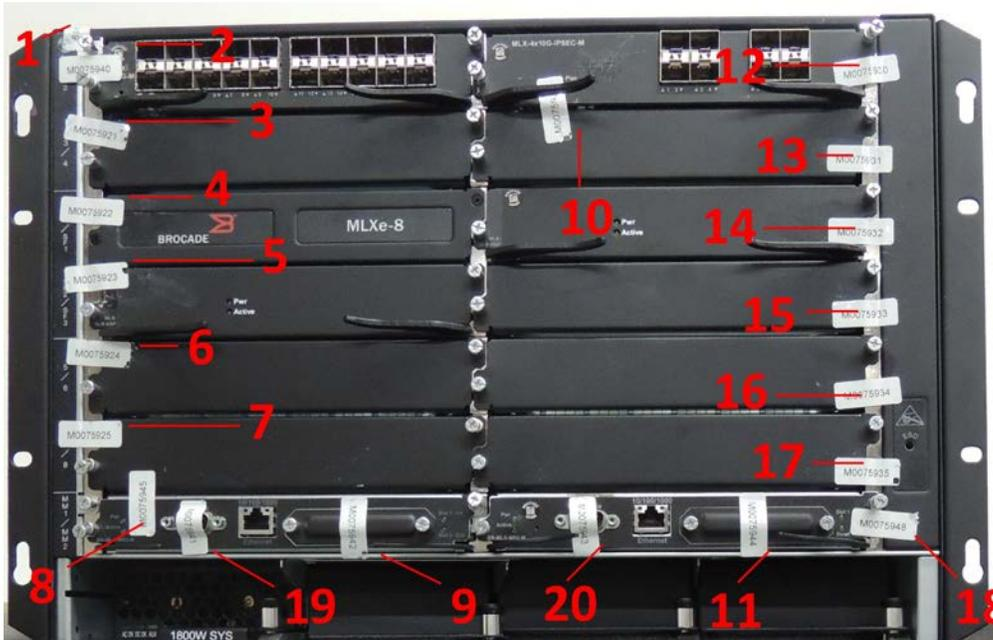

Figure 20 - Front view of Brocade MLXe-8 device with security seals
- Front: Twenty (20) seals are required to complete the physical security requirements. Unused slots must be filled with the module or filler panel appropriate for that slot to satisfy the physical security requirements and maintain adequate cooling. See Figure 20 for correct seal orientation and positioning.